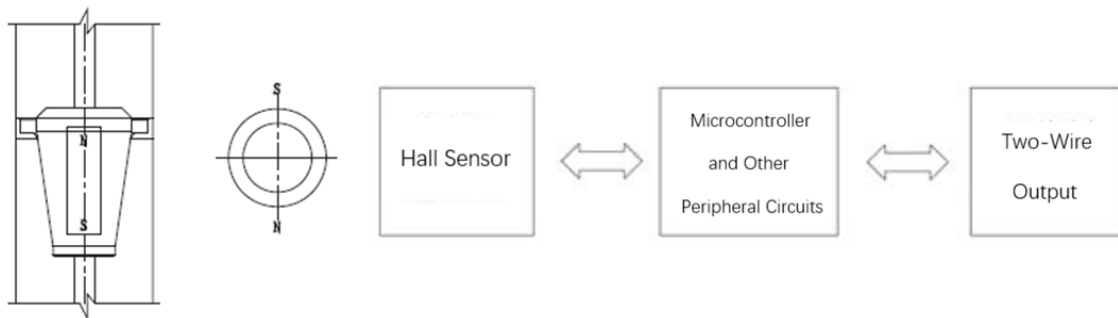

Figure 2-2 Mechanical Transmission, Electrical Schematic
2.2 Operating Principle Figure 2-2